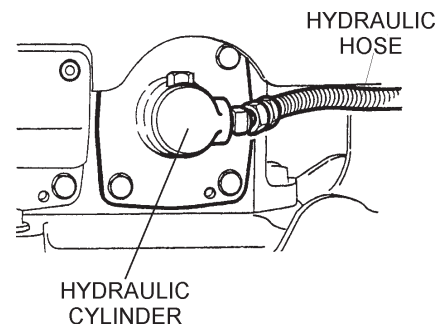

Figure 29. Hydraulic Oil Cylinder/Hose
1. Disconnect the hydraulic hose (Figure 29) connected to the hydraulic oil cylinder.